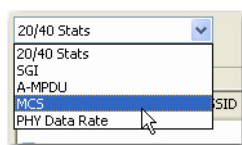

Figure 17-7: Selecting a station
- 3) Select a data type of interest, as shown in Figure 17-7.